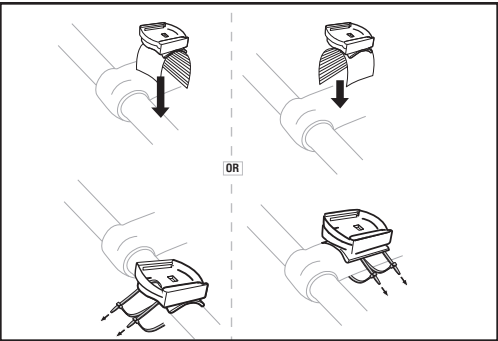

FIGURE 4
STEP 1: The mounting bracket consists of two parts and can be configured for handlebar or stem mounting. See Figure 4. Use the included zip-ties and shims (if necessary) to attach the bracket to the handlebar or stem. Tighten the zip-ties securely and trim the excess length with scissors or fingernail clippers.